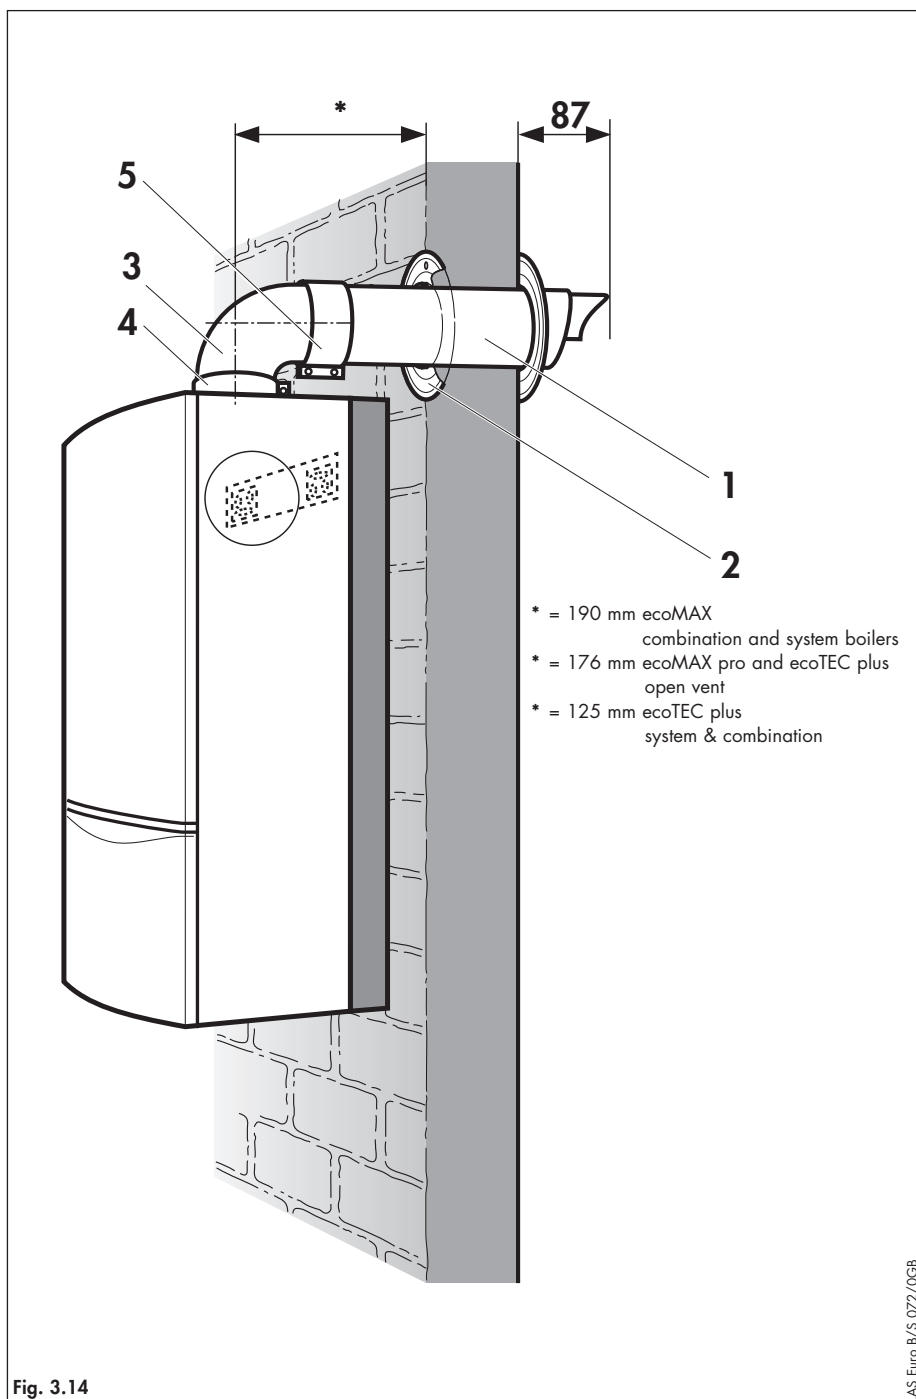

Fig. 3.14
- Push the air/flue duct assembly (1) including the flexible external seal through the wall until the seal clears the outside face of the wall and pull air/flue duct back towards the boiler until the external seal touches the outside wall (fig. 3.14 and fig. 3.18).
- Ensure that the air/flue duct (1) is centred in the hole and the terminal is correctly positioned with the inlet grille at the bottom (fig. 3.14 and fig. 3.18).
- Slide the internal trim ring (2) over the air duct until it is flush with the wall (fig. 3.14).
- Fit the elbow (3) to the boiler by inserting the spigot of the flue elbow into the flue socket on the boiler and secure using the 30 mm air duct clamp (4) provided (fig. 3.14).
- Fit the 48 mm air duct clamp (5) ensuring that it is positioned centrally (fig. 3.14).